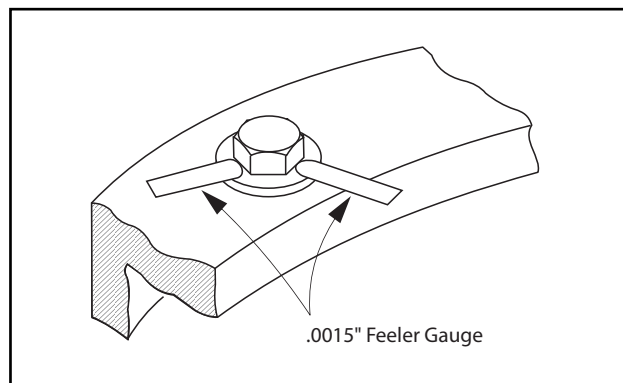

Figure 3-31. Swing Bearing Bolt Feeler Gauge Check
- b. Try and insert a 0.0015" feeler gauge between bolt head and hardened washer at position shown in Figure 3-31.
- b. try and insert a 0.0015" feeler gauge between bolt head and hardened washer at positions shown in Figure 3-31.
- d. Try and insert the 0.0015" feeler gauge between bolt head and hardened washer at position shown in Figure 3-31.